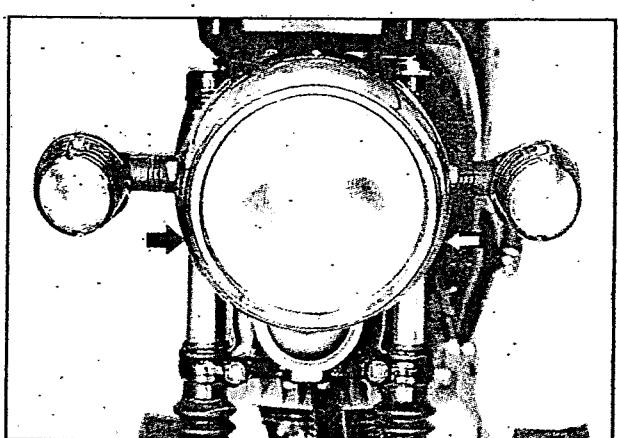

Fig 6.38
- Remove the two screws and take off the headlight (fig 6.38)